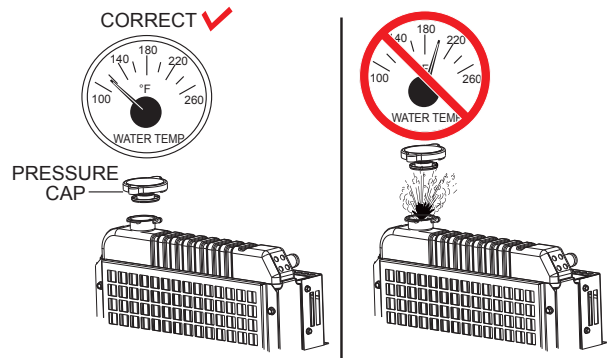

Figure 65. Radiator Pressure Cap Removal
- Remove the radiator pressure cap (Figure 65) only if the coolant temperature is below 120°F (50°C).